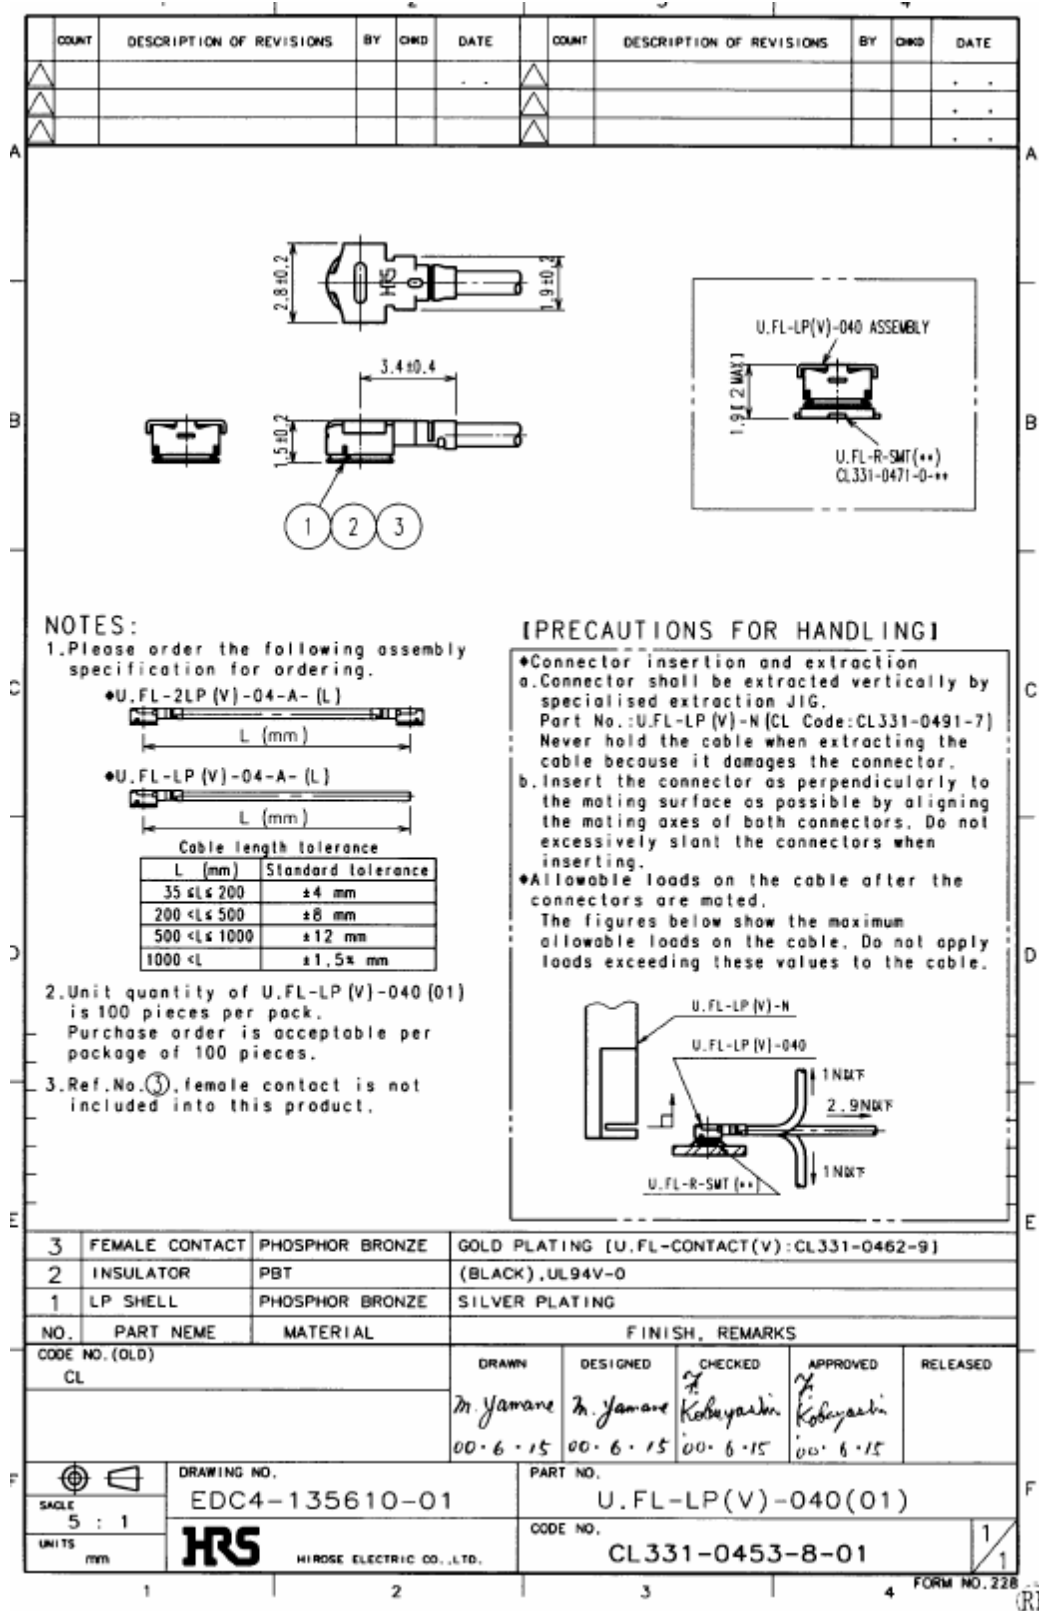

Figure 37: Specifications of U.FL-LP-(V)-040(01) plug
In addition to the connectors illustrated above, the U.FL-LP-(V)-040(01) version is offered as an extremely space saving solution. This plug is intended for use with extra fine cable (up to $\varnothing 0.81\text{mm}$) and minimizes the mating height to 2mm. See Figure 37 which shows the Hirose datasheet.